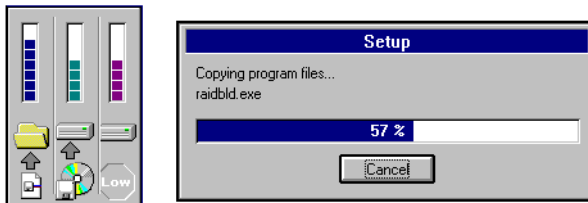

Figure 3-3. Installation Progress Display
6. During installation, files are decompressed and copied from the installation diskette to the destination directory (Figure 3-3).